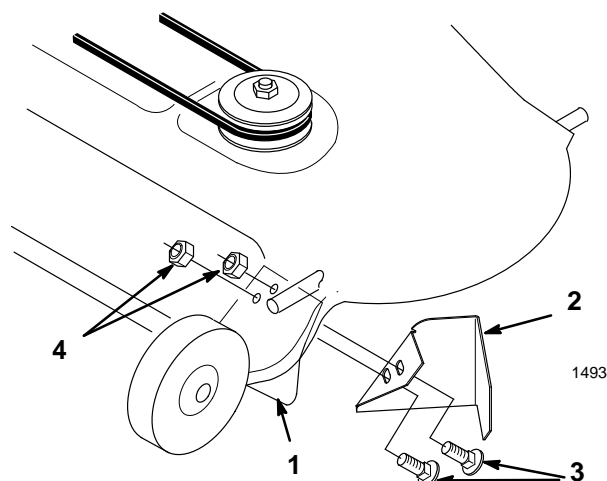

Figure 5
4. On 48" decks, secure with two 5/16 x 1" (25 mm) carriage bolts and 5/16" lock nuts (Fig. 5).